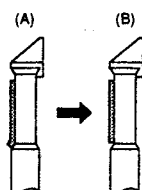

Fig. 7-3-4 No. 8 guide rough adjustment
2. Turn the ACE tilt adjusting screw until tape wrinkle is caused at the lower flange of No. 8 guide as shown in Fig. 7-3-4 (A).
3. Turn the ACE tilt adjusting screw counterclockwise until the tape travels along the lower flange as shown in Fig. 7-3-4 (B).